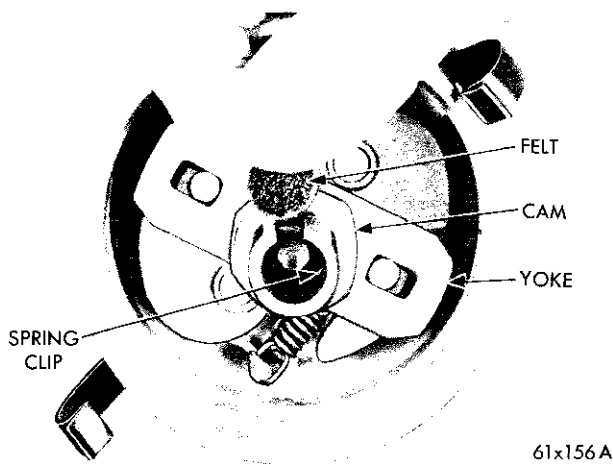
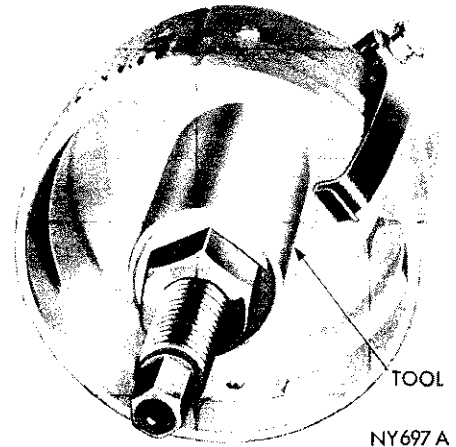

Fig. 4—Removing or Installing Cam Felt Wick
Fig. 5—Removing Distributor Housing Upper Bushing
- (3) Remove the two screws and lockwashers attaching the vacuum advance unit to the distributor housing and remove the unit.
- (4) Remove the primary lead wire and rubber grommet as an assembly. Push the grommet towards the inside of the distributor to remove. Do not pull the wire.
- (5) Remove the two screws, and lockwashers attaching the contact plate to the housing and lift out the contact plate, contacts and condenser as an assembly.
- (6) Remove the oil wick from the distributor cam (Fig. 3). Remove the spring clip from the oil well in the cam (Fig. 4) and remove the cam and yoke assembly and spacer.
- (7) If the side play exceeded .006 inch in the "Shaft and Bushing Wear Test," replace the bushings and/or distributor shaft as follows:
- (e) Remove the upper bushing with Tool C-3744 (Fig. 5) by threading the tap securely into the bushing. Place the spacer over the tap. Install the tool nut and, while holding the tap, tighten the tool nut to remove the bushing. Invert the housing and remove the lower bushing in the same manner.